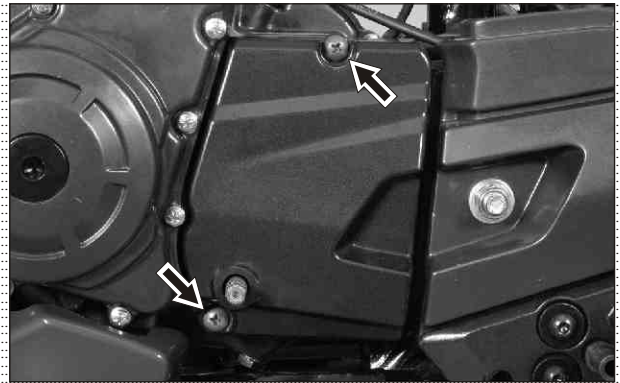

Fig. 3.34
- Remove CRR pan head screw (M6x20 - 2 nos) from the cover engine sprocket and take out cover engine sprocket. (Fig. 3.34)